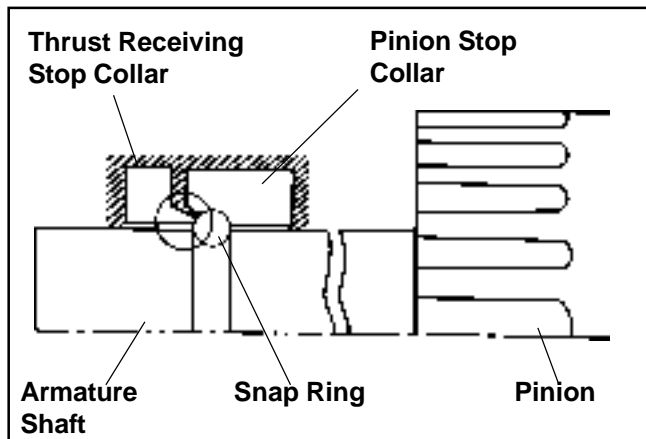

Figure 8-45. Stop Collars and Retainer.
8. The outward travel of the drive pinion is controlled by a snap ring, installed in a groove in the armature shaft, and a two-piece stop collar. The snap ring fits into a recess in the pinion (lower) stop collar, which locks it in the groove (see Figure 8-45). The thrust receiving (upper) stop collar has a projecting flange, which rests on the snap ring, and it serves as a thrust washer to protect the front armature bushing in the drive end cap.